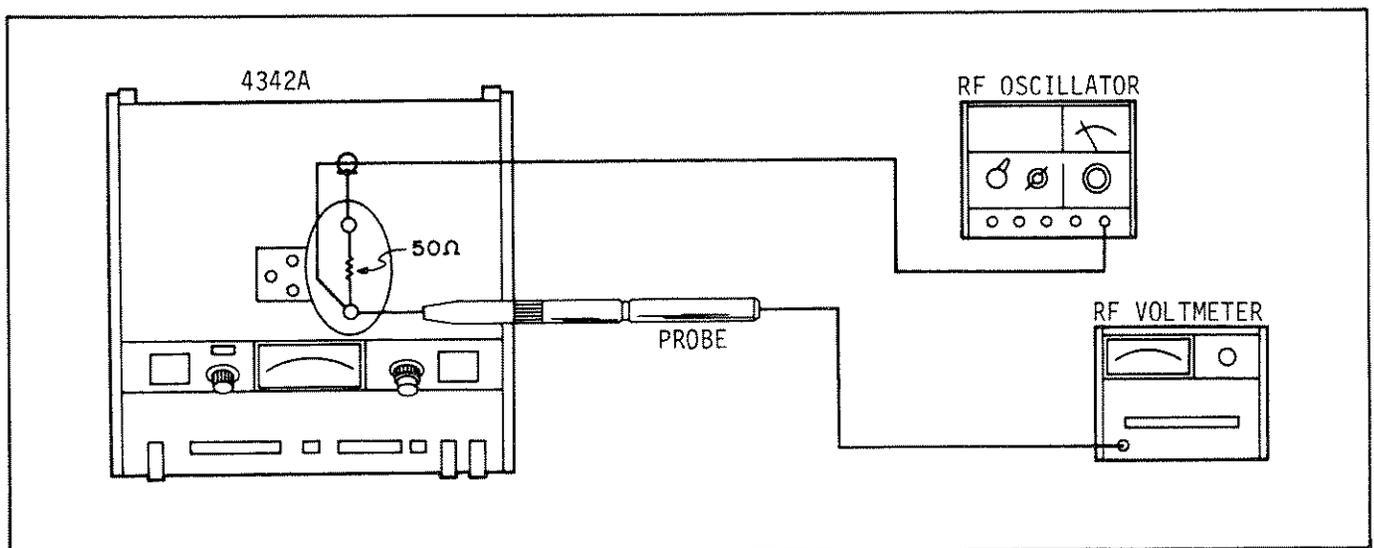

Figure 5-7. Frequency Response Adjustment.
- a. Connect RF Oscillator and RF Voltmeter as shown in Figure 5-7.